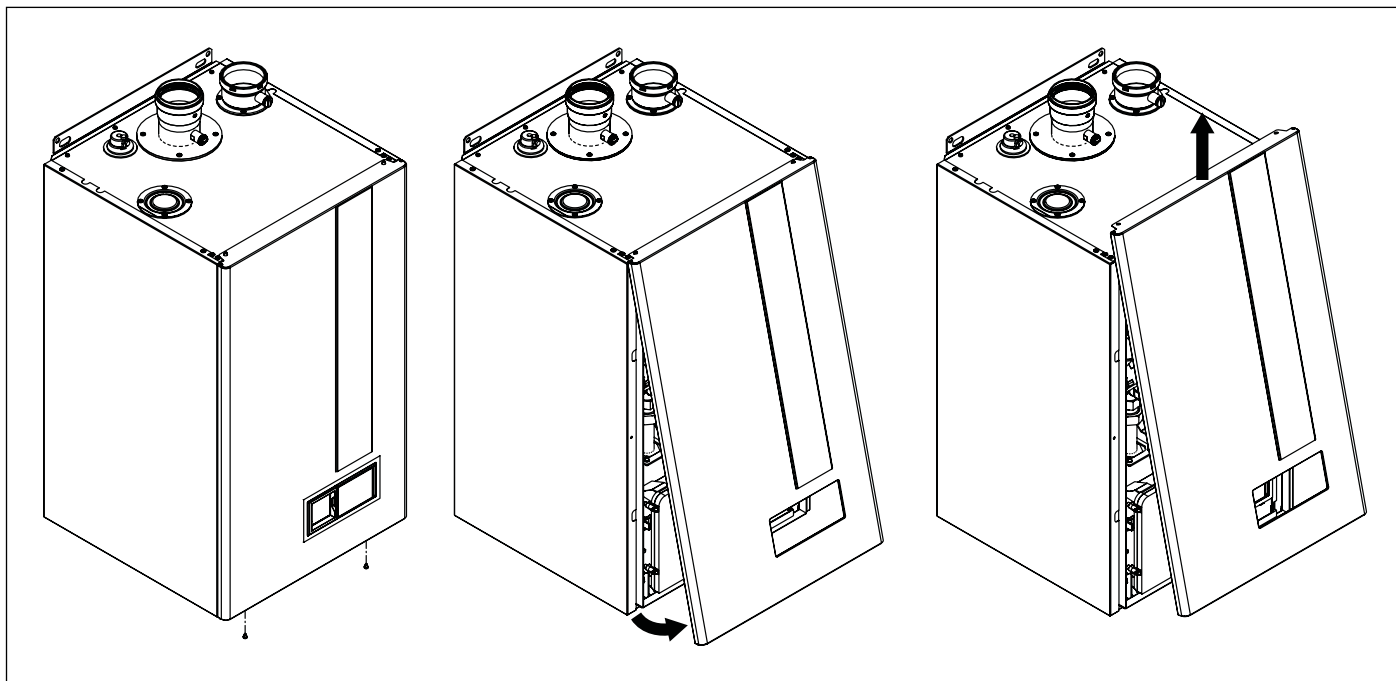

Fig. 34 Casing opening
- Remove the boiler front casing (see Fig. 34 Casing opening).